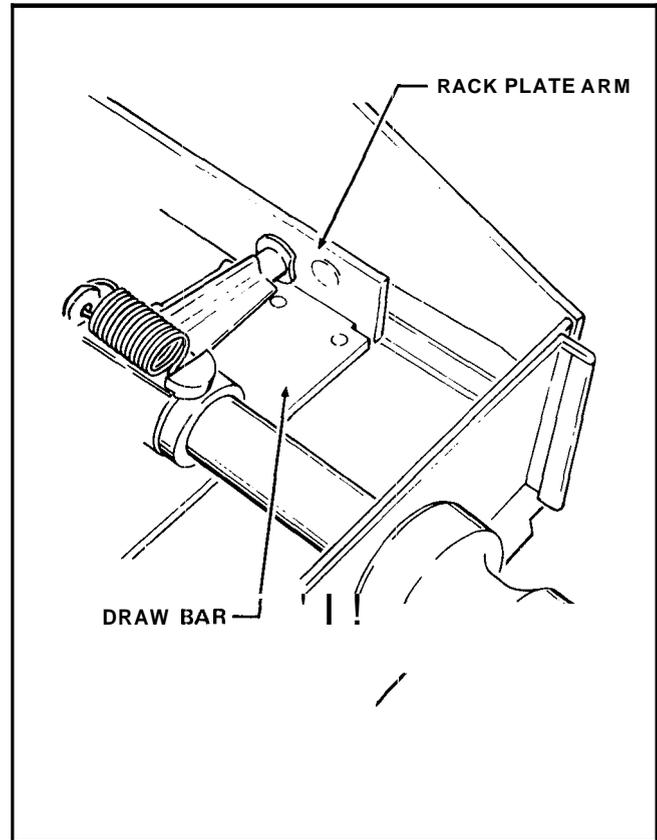

FIGURE 7-5
2. **Check to be sure the right end of the Draw Bar is properly fit under the notched part of the Rack Plate Arm. Compare with the left end fitting of both parts. See Figure 7-5.**